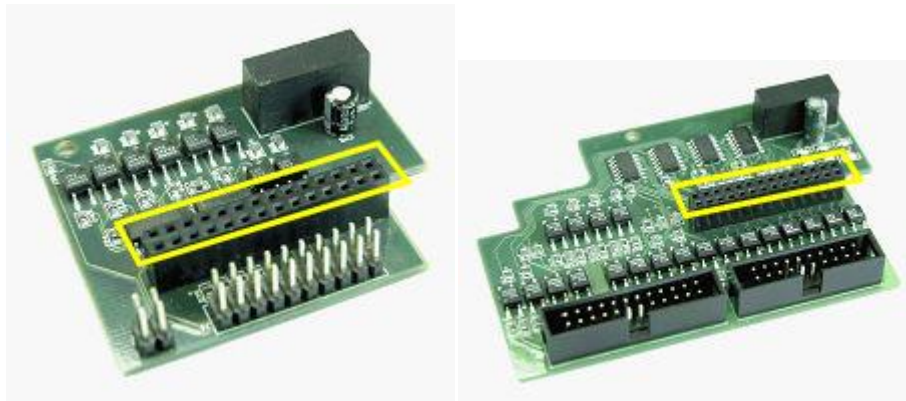
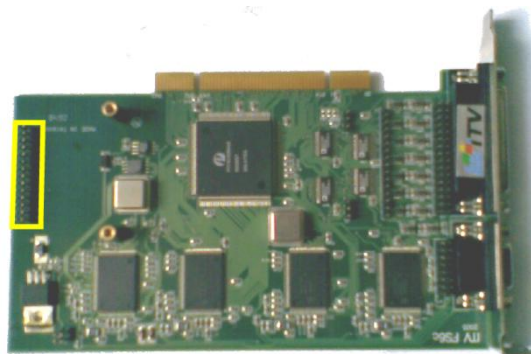
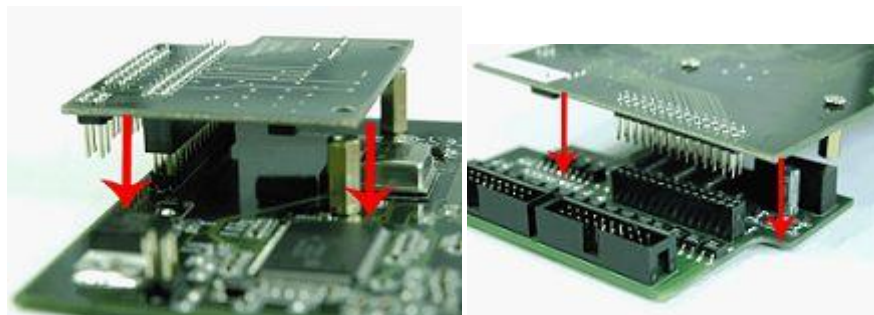

Figure 2.4-2 Connector on the DI/DO card for connecting to the video capture card (is exemplified in 4/4 and 16/4 DI/DO cards)
Figure 2.4-3 Connector on the video capture card for connecting the DI/DO card (is exemplified in FS6 video capture card)
Figure 2.4-4 Installation of the DI/DO card on the video capture card (is exemplified in 4/4 and 16/4 DI/DO cards and FS6 video capture card)
2. Install the DI/DO card on the video capture card with the help of special connectors. (Figure 2.4-2, Figure 2.4-3, Figure 2.4-4).